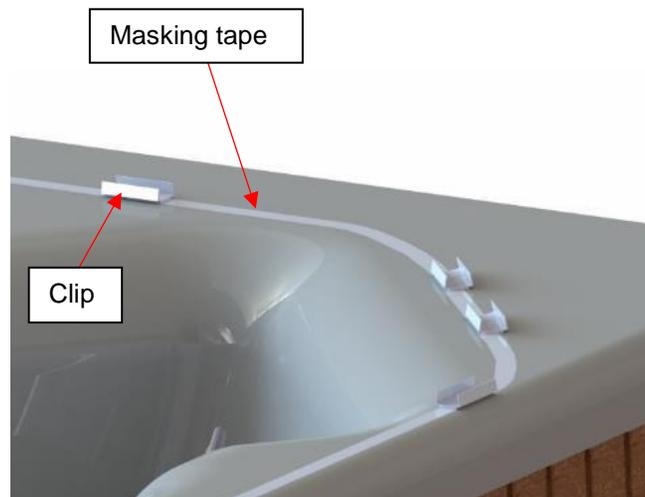

Figure 102
- 3) Apply the provided masking tape around the hot tub where the seal will be installed. The masking tape will ensure the seal is straight when pulled corner to corner. The ideal location for the seal is closer to the hot tub's interior edge, but on a flat surface (Figure 102). The minimum turn radius for the seal is 4 in (10 cm).
- 4) Apply the provided seal clips parallel on the masking tape around the hot tub and ensure to put more in the corners and on any tight turns, filters, etc., keeping in mind that a limited number of clips are provided. (Figure 102)